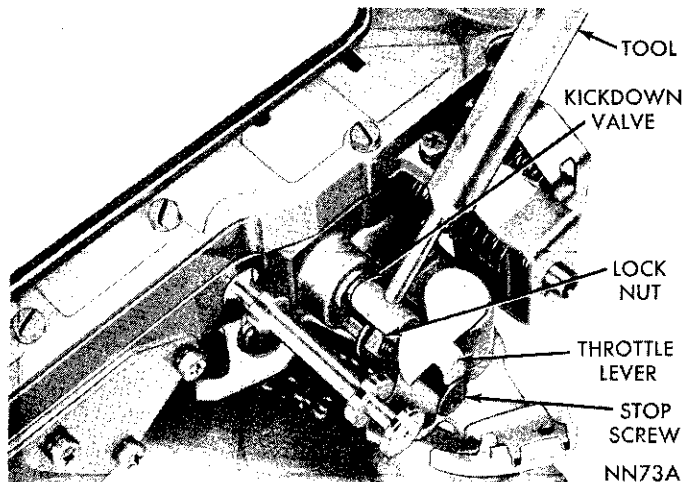

Fig. 16—Throttle Pressure Adjustment
(1) Remove valve body assembly from transmission to perform adjustment.
(2) Loosen throttle lever stop screw lock nut and back off approximately five turns (Fig. 16).
(3) Insert gauge pin of Tool C-3763 between the throttle lever cam and kickdown valve.
(4) By pushing in on the tool, compress kickdown valve against its spring so throttle valve is completely bottomed inside the valve body.
(5) As force is being exerted to compress spring, tighten throttle lever stop screw finger tight against throttle lever tang with throttle lever cam touching the tool and the throttle valve bottomed. **Be sure adjustment is made with spring fully compressed and valve bottomed in the valve body.**
(6) Remove tool and tighten stop screw lock nut securely.